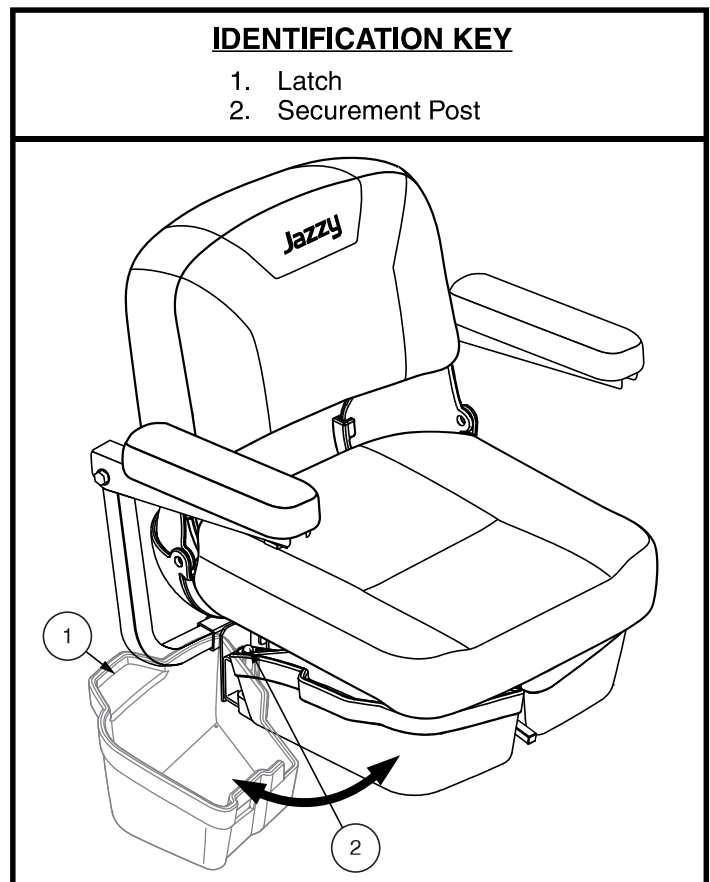

Figure 28. Under-seat Storage
1. Lift up slightly on the latch on the side of the under-seat storage bin (see figure 28) and swing the under-seat storage bin out and away from the Travel Scooter.
1. Lift up slightly on the latch on the side of the under-seat storage bin (see figure 28) and swing the under-seat storage bin out and away from the travel scooter until it is fully open.
2. If equipped, remove under-seat storage. **See Figure 28.**
7. If equipped, install under-seat storage. **See figure 28.**